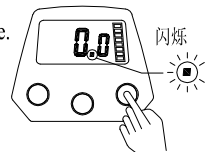

Figure 8-2-9
9. When "0.0" is in the winding state, press "RESET" to finish setting and enter the line-out state. Continue with the last settings of the line number and meters (Figure 8-2-9).